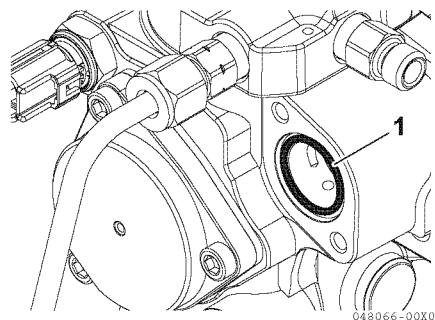

Fig.50-23
- 1 - Apply clean silicon grease to the O-ring, then install the O-ring into the O-ring groove of housing (1, Fig.50-23).